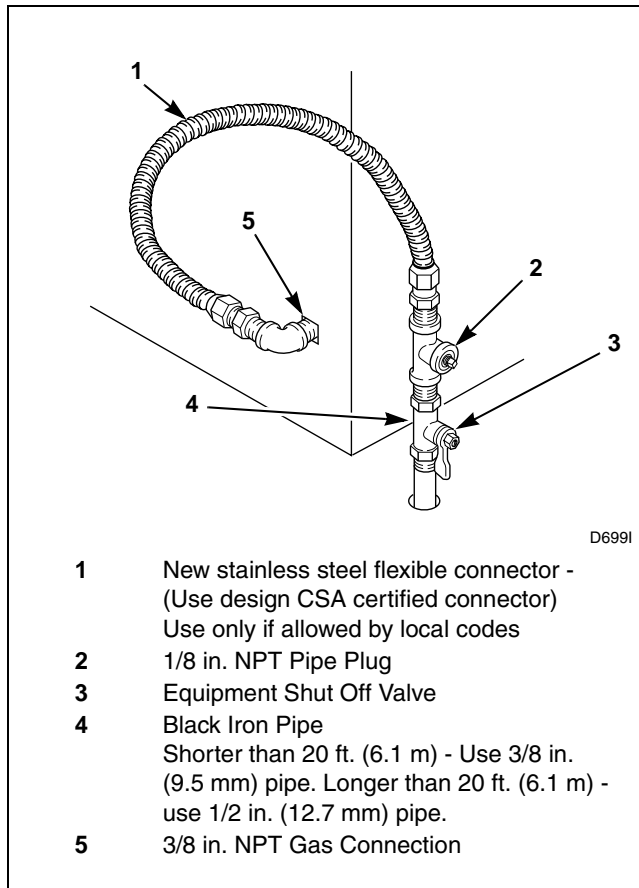

Figure 8
**NOTE:** When connecting to a gas line, an equipment shut-off valve must be installed within 6 feet (1.8 m) of the dryer. An 1/8 in. NPT pipe plug must be installed as shown for checking inlet pressure. Refer to *Figure 8*.